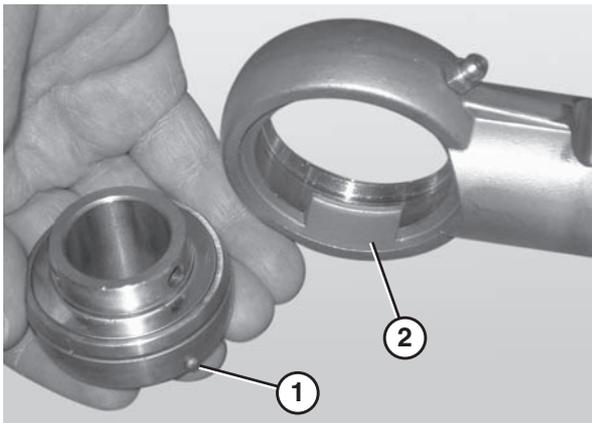

Figure 90
5. Remove the worn or damaged bearing (**Figure 90**).
When inserting the new bearing, make sure the anti-rotation notch (**Figure 90, item 1**) on the bearing lines up with the groove inside the housing (**Figure 90, item 2**).